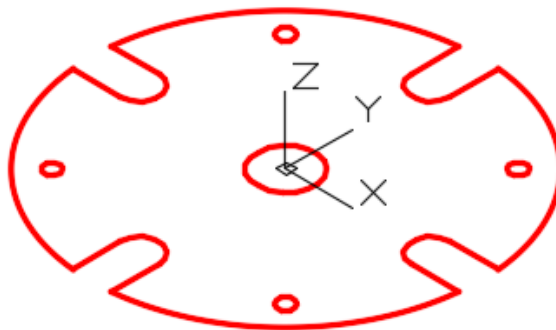

Figure Step 5
Step 5 Set layer: Model as the current layer. Draw the shape of the top of the object. Use the ARRAY command to speed up the construction. (Figure Step 5)